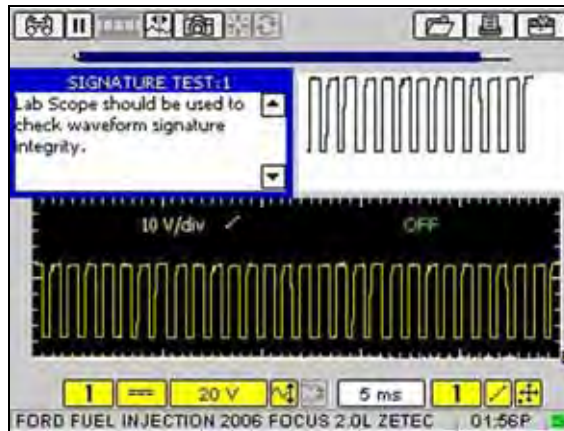

Figure 5-13 Sample test results
5. View and verify the test results as explained on-screen (Figure 5-13).